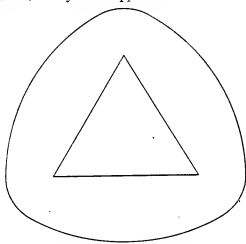
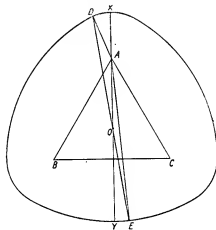

Fig. 1. A figure with a constant measurement across.
Fig. 2.
The definition in Euclid of a circle is "a plane figure contained by one line which is called the diameter, and is such that all straight lines drawn from a certain point within the figure to the circumference are equal; this point is called the centre of the circle." A diameter is "a straight line drawn through the centre and terminated both ways by the circumference." Fig. 1 is an exaggerated example of a shape which, when measured by micrometers or verniers, will give a constant reading; it is also the type of shape which sometimes results from centreless grinding. It is formed upon an isosceles triangle, and in Fig. 2 it is proved that the diameters—that is, any two lines through the centre of the figure, which is obviously the centre of the isosceles triangle—are not necessarily equal.
In Fig. 2, ABC is an isosceles triangle. O is its centre. Short arcs are subtended on A, B and C as centres with the same radius (r). With a long radius (R), these centres are joined up by arcs subtended from A, B and C. O is then the centre of the resultant figure. DOE and XOY are drawn as diameters. DA and EA are joined.